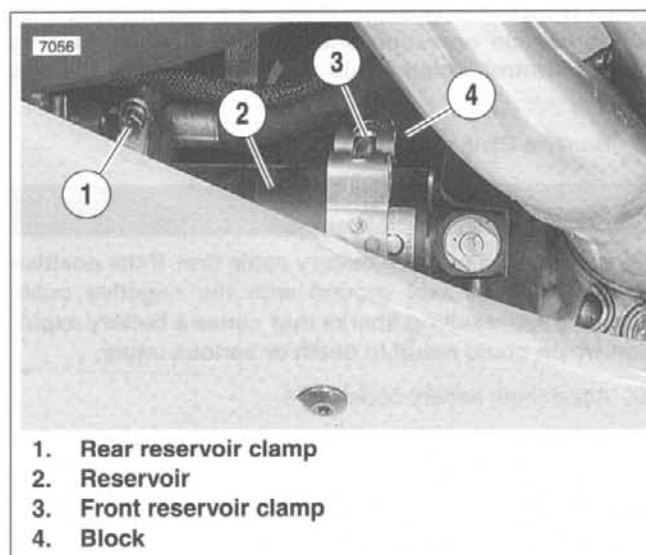
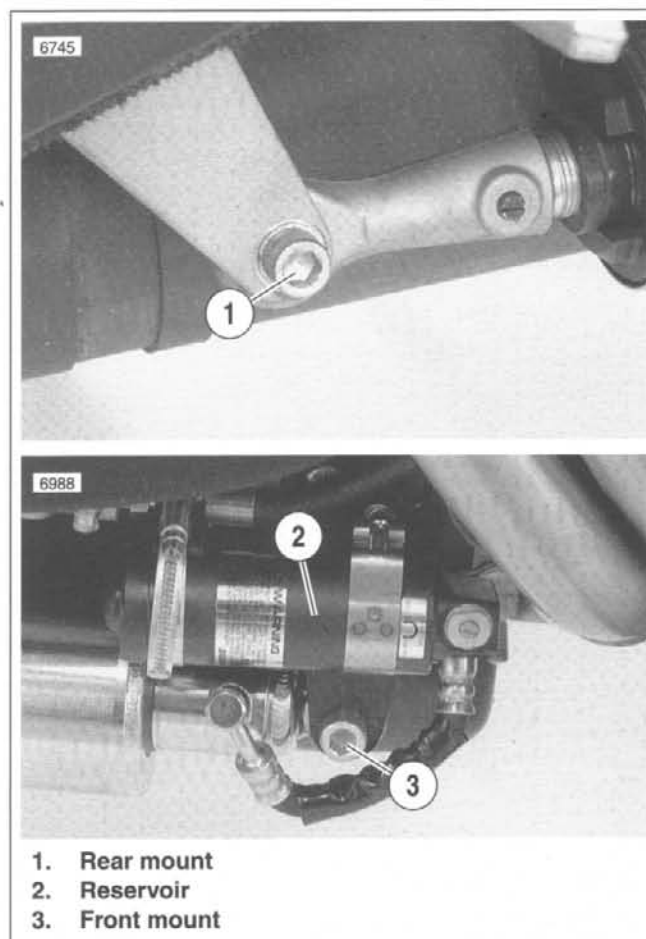

Figure 2-121. Reservoir Clamps
Figure 2-122. Shock Mounting Hardware
5. See Figure 2-121. Remove reservoir.
- a. Remove locknut and washer on the front reservoir clamp (3).
- b. Loosen rear reservoir clamp (1). Slide reservoir (2) and mount block (4) out of clamps.
6. See Figure 2-122. Remove allen bolt (metric) and locknut on front mount (3).
7. While supporting the shock absorber, remove the allen bolt (metric) and locknut from the rear mount (1).
2. See Figure 2-122. Loosely install rear allen bolt (1) (metric) and locknut.
3. Loosely install front allen bolt (3) (metric) and locknut.
4. See Figure 2-121. Loosely install rear clamp (1) and front clamp (3) around reservoir (2) and mounting block (4).